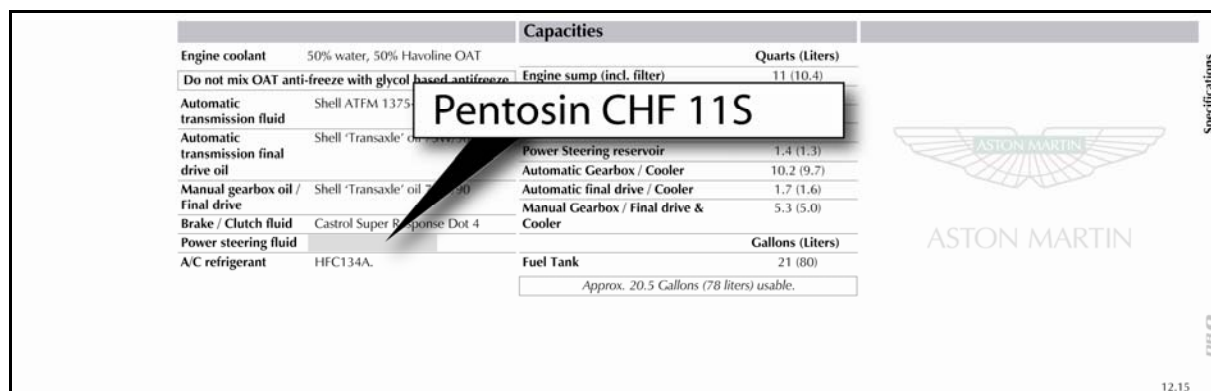

Figure 3
50. Apply a label that covers the initial fluid type in the Owner's Guide to show the new fluid type (refer to Figure 3).
Note: The page shown in Figure 3 is an example. The actual page can look different.